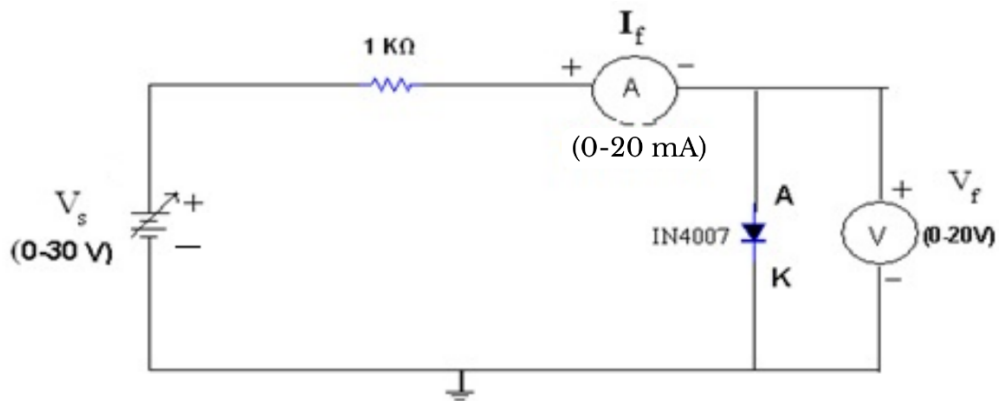

Fig 2.4: Circuit Diagram of P-N Junction Diode for Forward Bias
- Connect the circuit as shown in fig 2.4 using silicon PN Junction diode.